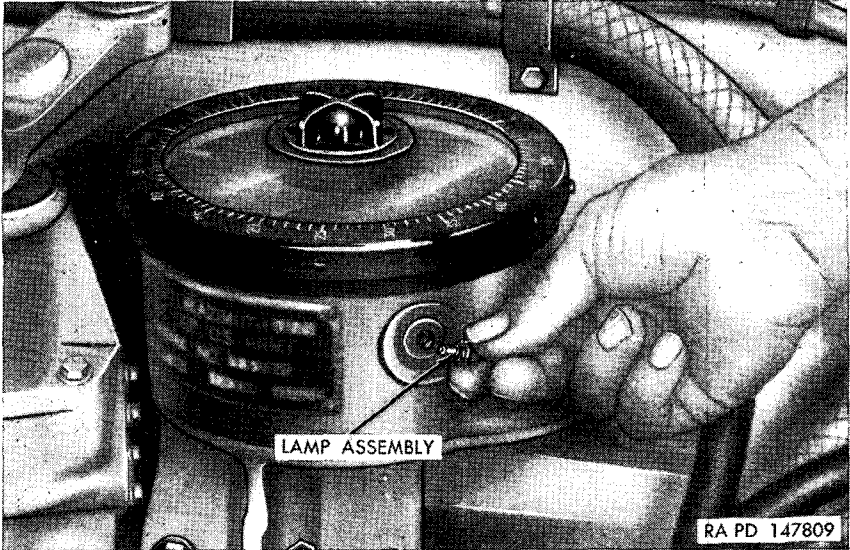

Figure 355. Replacing lamp in azimuth indicator T24.
e. REPLACEMENT OF LAMP ASSEMBLY IN AZIMUTH INDICATOR T24 (fig. 355). Unscrew lamp assembly from side of azimuth indicator. Install new lamp assembly.